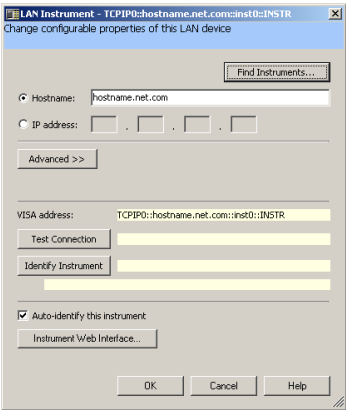

Figure 6 LAN Instrument Configuration Dialog Box
- 2 Leaving the LAN interface selected, click **OK**. The *LAN instrument configuration* dialog box appears, as shown in Figure 6.